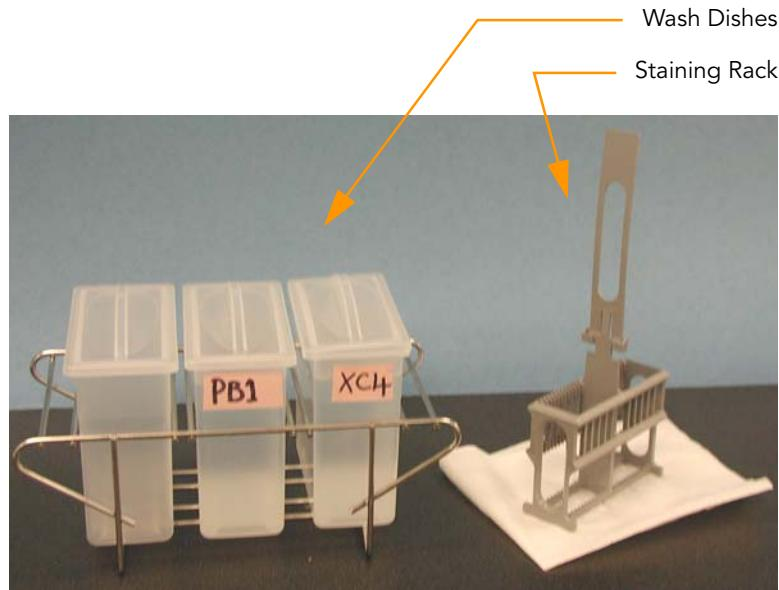

Figure 153 PB1 and XC4 Wash Dishes with Staining Rack
1. Set up two top-loading wash dishes, labeled "PB1" and "XC4" (Figure 153).